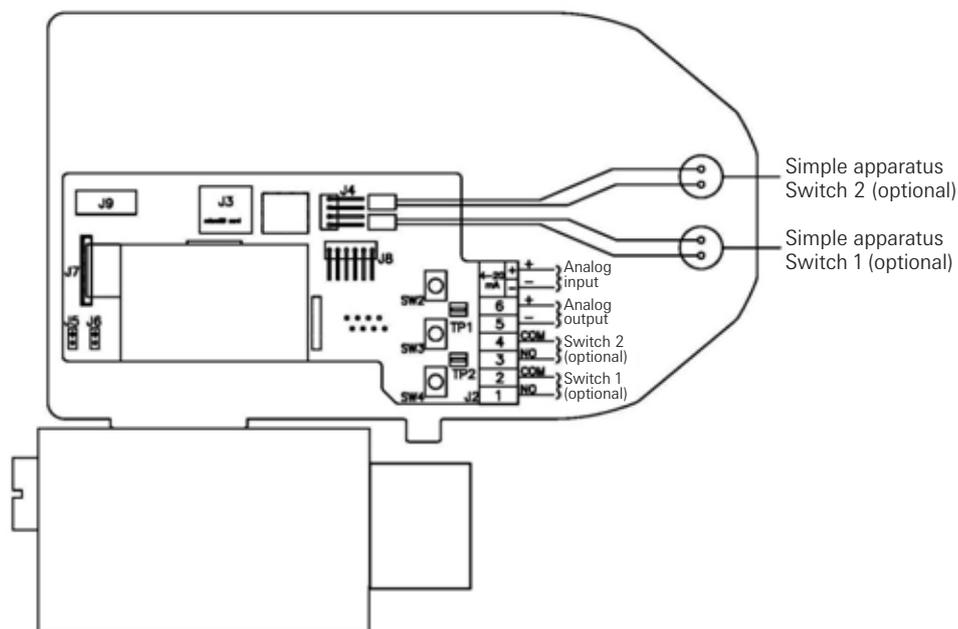

Figure 2-7
3. Connect the 4 to 20 mA loop signal to terminal points marked (+) and (-). See Figure 2-7 for a wiring schematic.